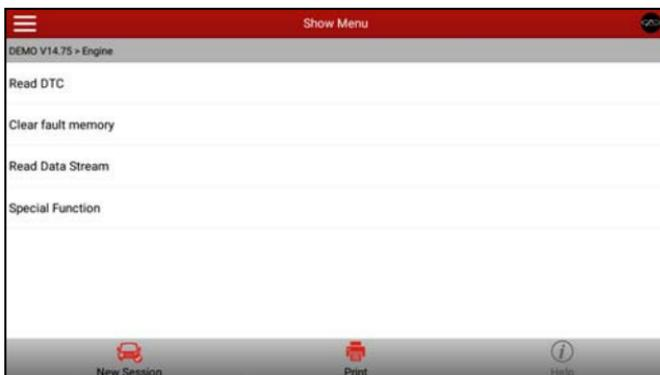

Fig. 4-17
- 3). Tap “Engine”, the system will jump to the function menu. See Fig. 4-17.